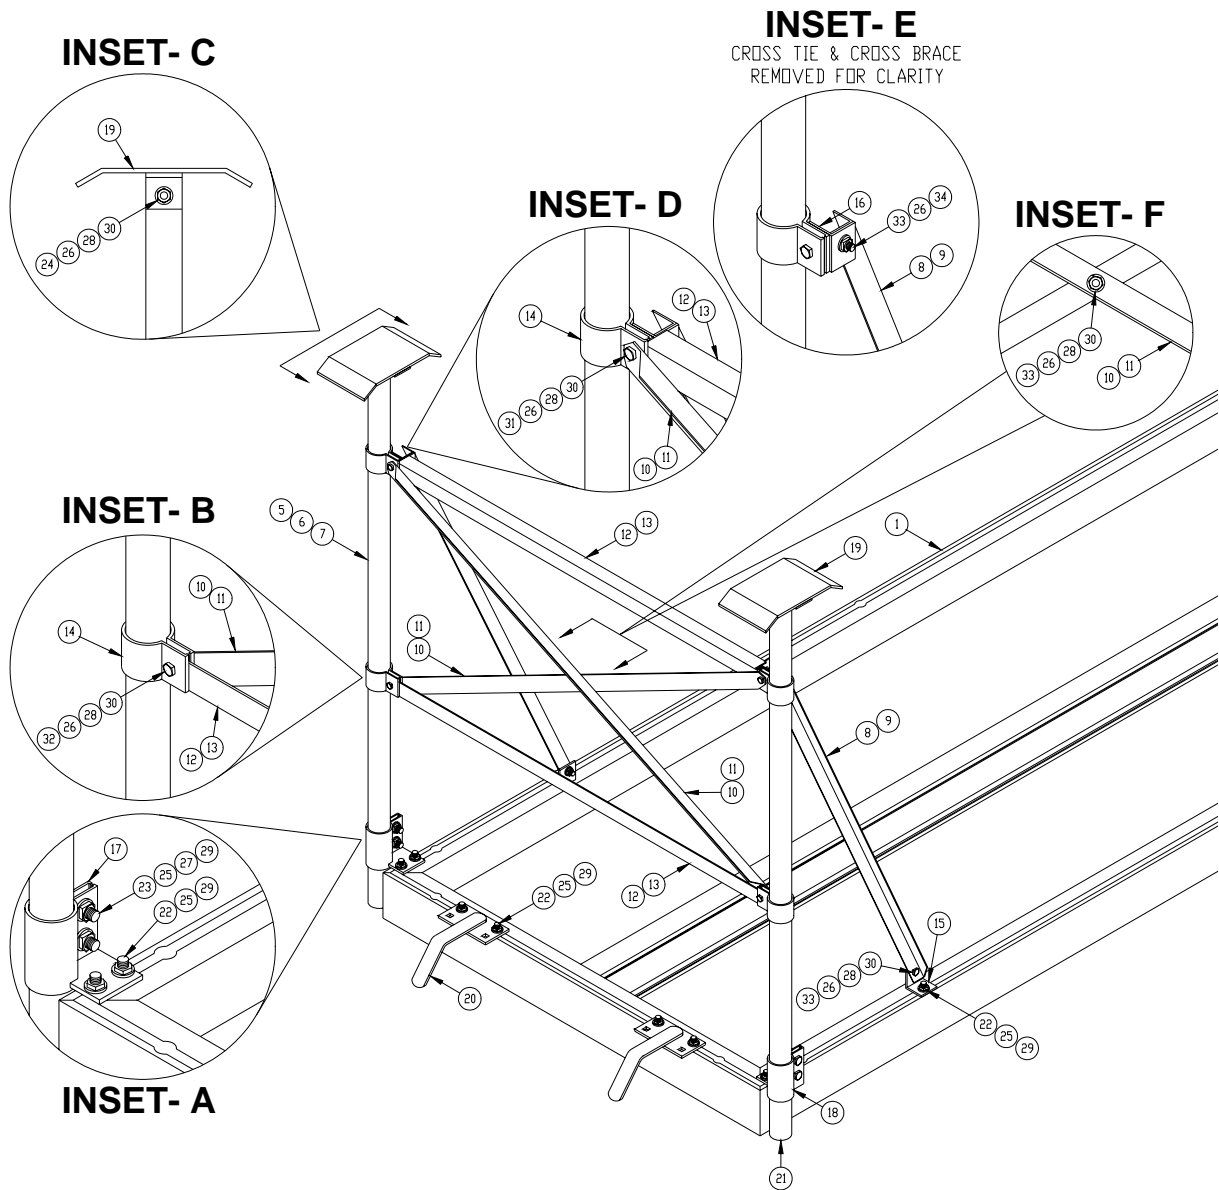

Figure 3-2
The reference numbers shown on Figure 3-2 are the same as those listed in the parts lists of Chapter 5. All references to insets in this chapter are shown on Figure 3-2.
1. Refer to Figure 3-2, Inset A. Insert two carriage bolts for the support post clamp into the left-hand slot of the dock frame.
3. Refer to Figure 3-2. Insert a carriage bolt for the upper diagonal bracket into the slot of the dock frame. Install an upper diagonal bracket loosely in place.
1. Refer to Figure 3-2. Install ramp pivot supports if applicable.
1. Refer to Figure 3.2. Install two appropriate depth support posts. Refer to Section 3.4. for details.
3. Install support post clamps on both sections as shown in Figure 3-2, Inset A. Loosely install the support post clamp on the outside corner of the "L" section.
1. Refer to Figure 3-2. Install four appropriate depth support posts in each corner. Refer to Section 3.4. for details.